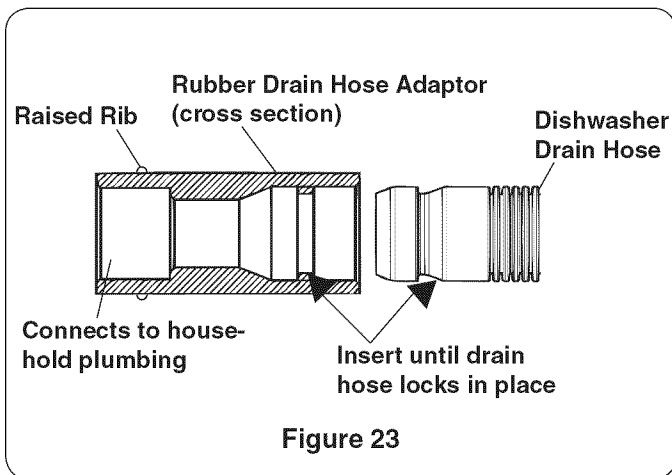

Figure 23
- 2 On one outside end of the Rubber Drain Hose Adaptor is a raised rib. Insert the dishwasher drain hose into the **end without the raised rib** (see **Figure 23**). Be sure to fully insert the drain hose.